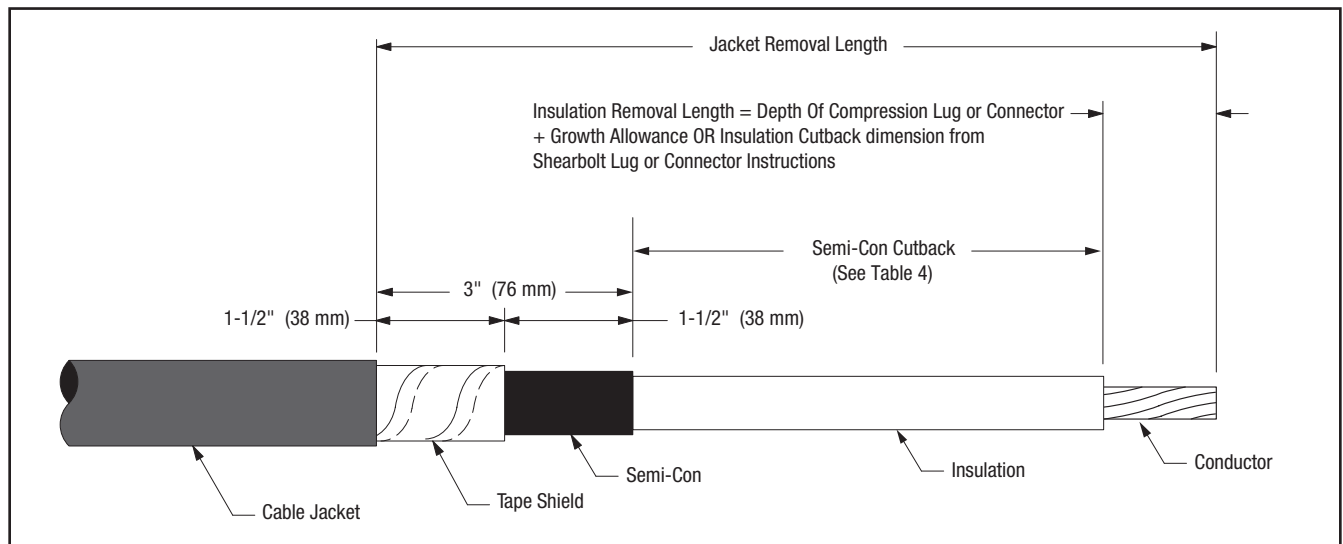

Figure 1
- 2.2 Prepare cable using dimensions shown in Figure 1. **BE SURE TO ALLOW FOR DEPTH OF TERMINAL LUG OR CONNECTOR.** If necessary to prevent tape shield from unrolling, hold down edge with a single wrap of 3M EMI Copper Foil Shielding Tape 1181. If using 3M Shearbolt Lugs QL2 Series: Two Hole, or 3M Mechanical Shearbolt Connector QCI Series, proceed to Step 2.3. If using a Crimp Type (Compression) lug, measure the depth of the barrel, or if using a Crimp Type (Compression) connector, measure to the barrel center stop/midpoint, and see the NOTE below in order to calculate the Insulation Removal Length. Table 5 can be used to assist in calculating the total Jacket Removal Length when using a compression lug or connector